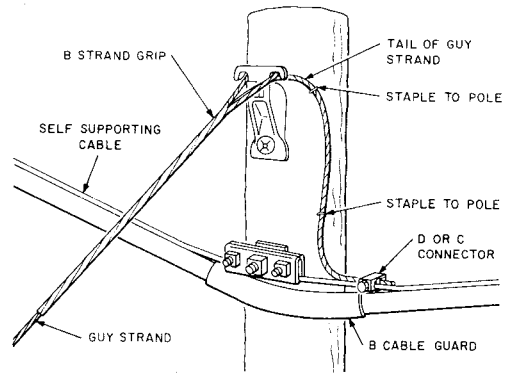

Fig. 14—Guy Tail Connected to Jacketed Strand
3.08 Connect the guy to the strand as shown (Fig. 14) when using the tail of a guy to make the electrical connection between guy and strand for self-supporting cable.